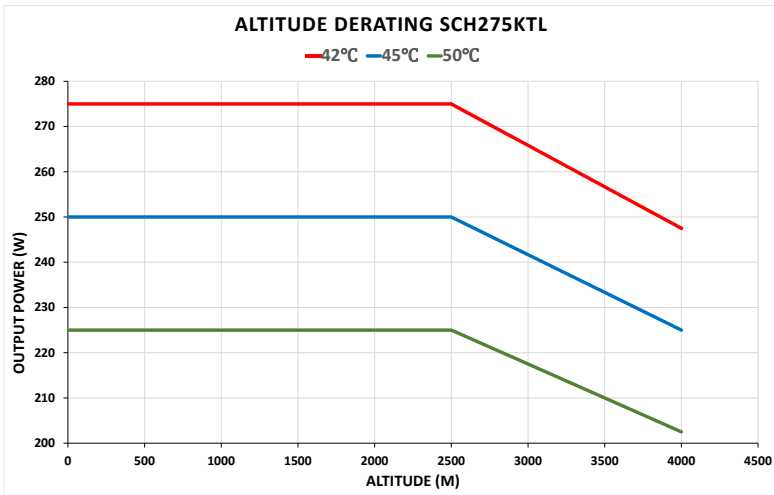

Figure 9-4 Derating curve with working altitude
- The highest no-derating working altitude level is 2500m for this inverter, its derating situation is as shown in Figure 9-4.